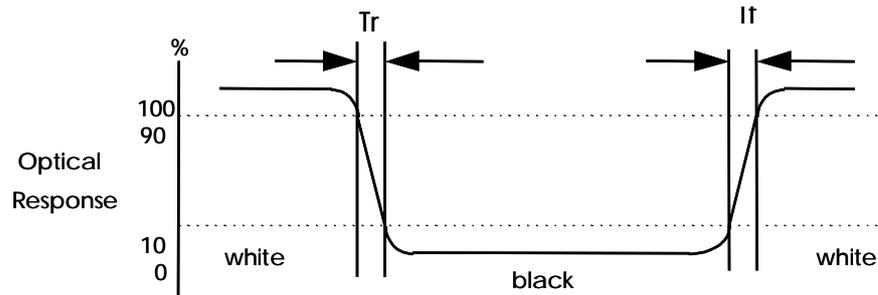

FIG. 2 Measuring method for Contrast ratio, surface luminance, Luminance uniformity, CIE (x, y) chromaticity
Note 1. Contrast Ratio(CR) is defined mathematically as For more information see FIG 2.:
Note 2. Surface luminance is the LCD surface from the surface with all pixels displaying white. For more information see FIG 2.
Note 3. The uniformity in surface luminance, δ WHITE is determined by measuring luminance at each test position 1 through 5, and then dividing the maximum luminance of 5 points luminance by minimum luminance of 5 points luminance. For more information see FIG 2.